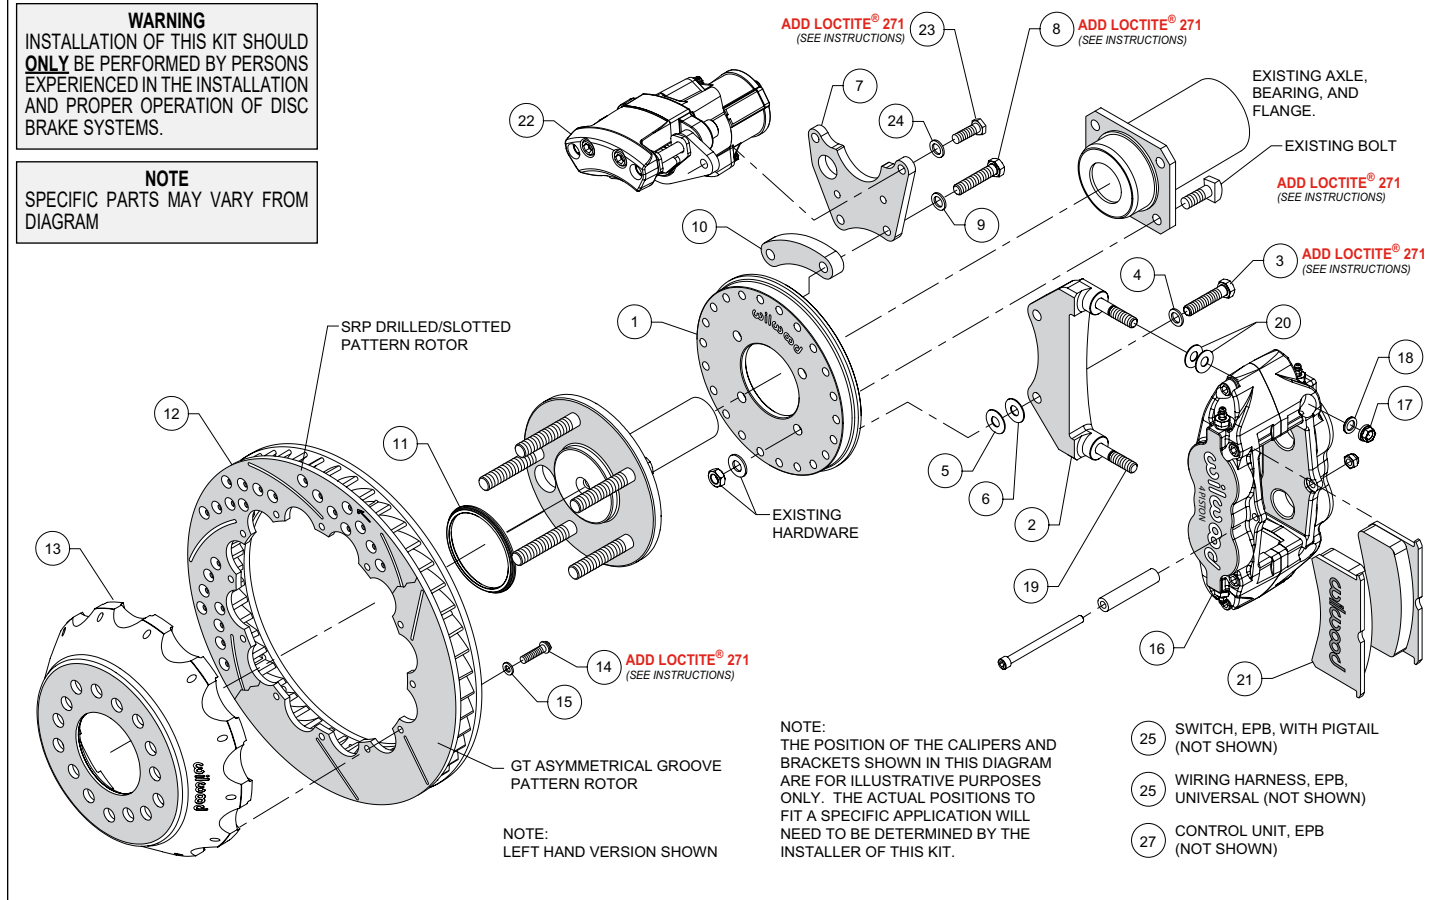
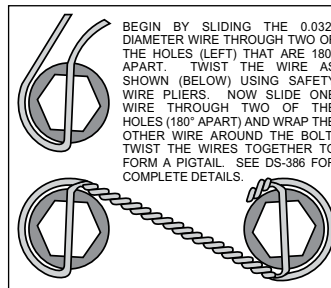

Figure 1. Typical Installation Configuration
Figure 4. Safety Wire Diagram
NOTE: Numbers in parenthesis refer to the parts list and Figure 1 on the preceding pages.
- Orient the backing plate (1) as shown in Figure 1 and Photo 1, and mount it to the axle housing flange using the Original Equipment Manufacturer (OEM) bolts, washers and nuts, Figure 1. Ensure the backing plate fits flush against the axle housing flange. Apply red *Loctite*® 271 to the OEM bolt threads and torque to OEM specifications.
•Start by determining the best location for the service caliper (16). This caliper is usually mounted in the 3:00 or 9:00 o'clock position, but may be rotated up or down approximately 45 degrees and still allow for proper bleeding, Photo 2. Orient the service caliper bracket (2) as shown in Figure 1 and Photo 3, and install to the backing plate (1) in the desired location using bolts (3) and washers (4). Temporarily tighten bolts. Next, mount the service caliper onto the bracket. Mount the service caliper using lock nuts (17) and washers (18), Figure 1. Temporarily tighten the lock nuts. Check that the caliper (including inlet fitting and hose) has sufficient clearance to all surrounding components through the full suspension travel. Relocate the caliper/bracket on the backing plate as needed to ensure proper clearance is achieved.
•Determine the best location for the EPB caliper (22). **NOTE:** The EPB caliper motor extends farther inboard than the service caliper and therefore needs additional consideration when determining a mounting location with sufficient clearance. In the example application shown in Photo 4, the EPB caliper has sufficient inboard clearance to the leaf spring. However, if the EPB caliper were mounted closer to the 12:00 o'clock position, the inner body of the vehicle would hit the caliper during full compression of the suspension.
•Orient the EPB caliper bracket (7) as shown in Figure 1 and Photo 5, and install to the backing plate (1) in the desired location using bolts (8), washers (9), and spacer (10). Temporarily tighten bolts. **NOTE:** The EPB bracket is reversible. In one direction the bracket will position the EPB caliper closer to the service caliper, and vice versa if reversing the bracket. Next, mount the EPB caliper (22) to the bracket using bolts (23) and washers (24). Temporarily tighten bolts. **NOTE:** EPB calipers are Left and Right handed, however they can be used on either side of the vehicle to best suit your specific application. Check that the EPB caliper (including wiring harness connector) has sufficient clearance to all surrounding components through the full suspension travel. Relocate the EPB caliper/bracket on the backing plate as needed to ensure proper clearance is achieved.
- Once the caliper positions have been determined, remove both the service (16) and EPB (22) calipers, leaving both brackets in place on the backing plate. For the EPB bracket, remove the bolts one at a time, apply red *Loctite*® 271 to the threads, and torque to 35 ft-lb. The service caliper bracket will be final installed after shimming is determined.
- Orient the rotor (12) and the hat (13) as shown in Figure 1 and Photo 6. Attach rotor to hat using bolts (14) and washers (15). Apply red *Loctite*® 271 to the bolt threads and torque to 155 **in-lb** using a criss-cross pattern. For an added measure of security, the bolts may be safety wired using standard 0.032 inch diameter stainless steel safety wire as shown in Figure 4. Please refer to Wilwood's data sheet DS-386 (available at www.wilwood.com/Pdf/DataSheets/ds386.pdf) for complete safety wire installation instructions.
- Slide the rotor registration adapter (11) onto the register on the axle flange with the smaller O.D. facing toward the rotor/hat (12 and 13), Photo 7.
- Initially place two .035" thick shims (20) on each stud of the service caliper bracket (2), as shown in Figure 1 and Photo 8. Mount the caliper onto the bracket using lock nuts (17) and washers (18), Figure 1. Temporarily tighten the lock nuts and view the rotor through the top opening of the caliper. The rotor should be centered in the caliper, Photo 9. If not, adjust by adding or subtracting shims (5 and/or 6) between the service caliper bracket (2) and the backing plate (1). Always use the same amount of shims on each of the two mounting bolts. Once the caliper alignment is correct, remove the bracket mounting bolts (3) one at a time, apply red *Loctite*® 271 to the threads, and torque bolts to 35 ft-lb.
- Remove the caliper center bridge pad retainer bolt, nut, and tube from the caliper. Insert the brake pads (21) into the caliper, with the friction material facing the rotor, as shown in Photo 10. Check that the top of the brake pad is flush with the outside diameter of the rotor, Photo 11. If not, adjust by adding or subtracting shims (20) between the caliper (16) and the service caliper bracket (2). After the caliper pad height is set, torque the caliper lock nuts (17) to 30 ft-lb. Secure the brake pads in place with the center bridge pad retainer tube, bolt, and locknut, Photo 12. The locknut should be snug without play in the bolt or tube. Be cautious not to over tighten.
- Mount the EPB caliper (22) onto the caliper mounting bracket (7) using bolts (23) and washers (24), Figure 1. Apply red *Loctite*® 271 to bolt threads, and torque to 30 ft-lb.
- NOTE:** *The service caliper (16) in this brake kit utilizes a 1/8-27 NPT pipe thread inlet. OEM rubber brake hoses generally cannot be adapted to Wilwood calipers. The preferred method is to use steel adapter fittings at the caliper, either straight, 45 or 90 degree (use PTFE tape on pipe threads of adapter fitting for proper sealing to caliper) and enough steel braided line to allow for full suspension travel. Carefully route hoses to prevent contact with moving suspension, brake or wheel components. NOTE: Wilwood hose kits are designed for use in many different vehicle applications and it is the installer's responsibility to properly route and ensure adequate clearance and retention for brake hose components.* Wilwood offers universal brake flex line hose kits, domestic (3/8-24 IF) chassis fittings, order: